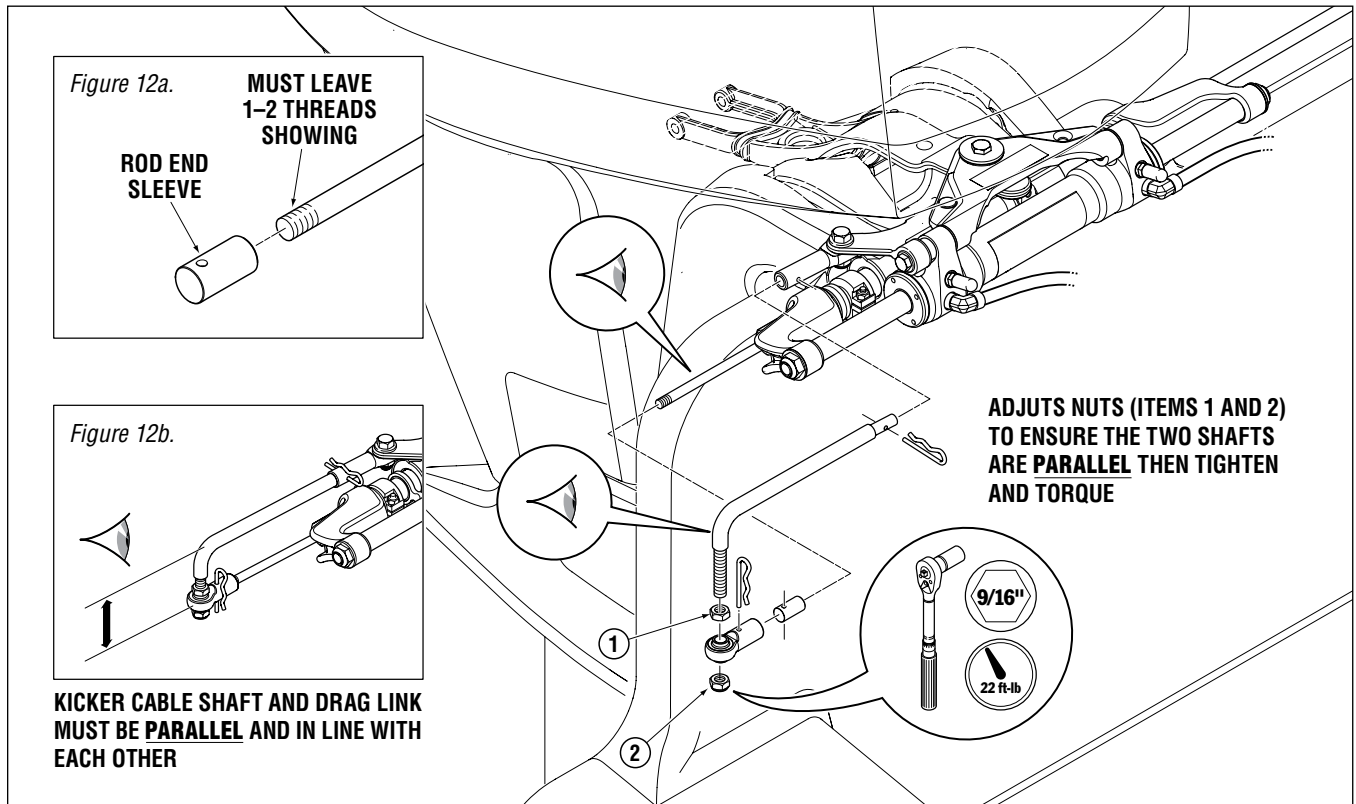

Figure 12.
- Install remaining components as per Figure 12.